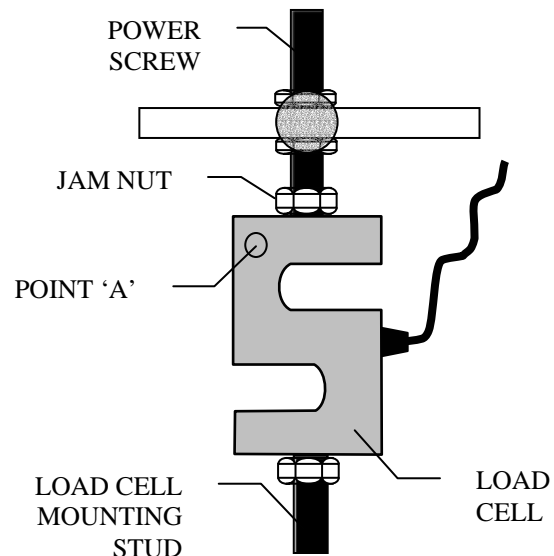

Figure 4.5 – LOAD CELL INSTALLATION (W/O ADAPTERS)
- 2A. Refer to Figure 4.5 – LOAD CELL INSTALLATION (W/O ADAPTERS) below. Grasp the Load Cell with a wrench at Reference Point 'A' as shown in the drawing. Using a second wrench, tighten the jam nut against the top of the Load Cell while holding the Load Cell firmly with the wrench.